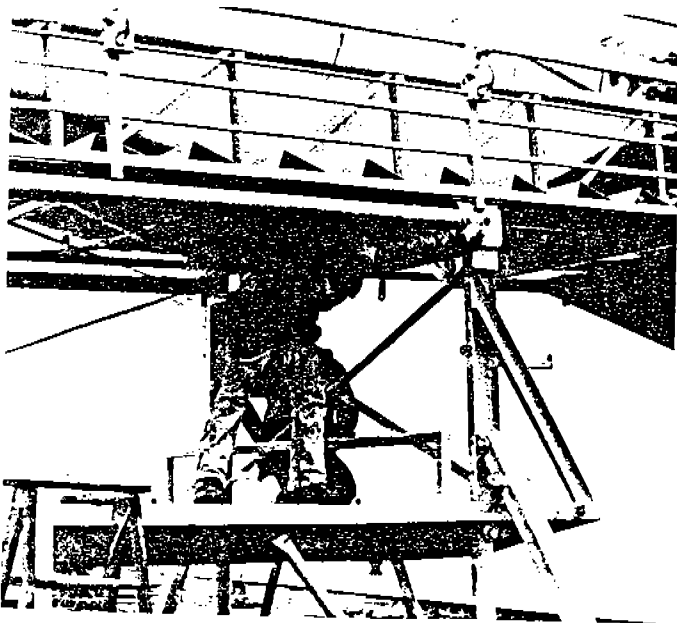

Fig. 33
- a. Remove the pins that hold the upper slide section in traveling position. (Fig. 33)